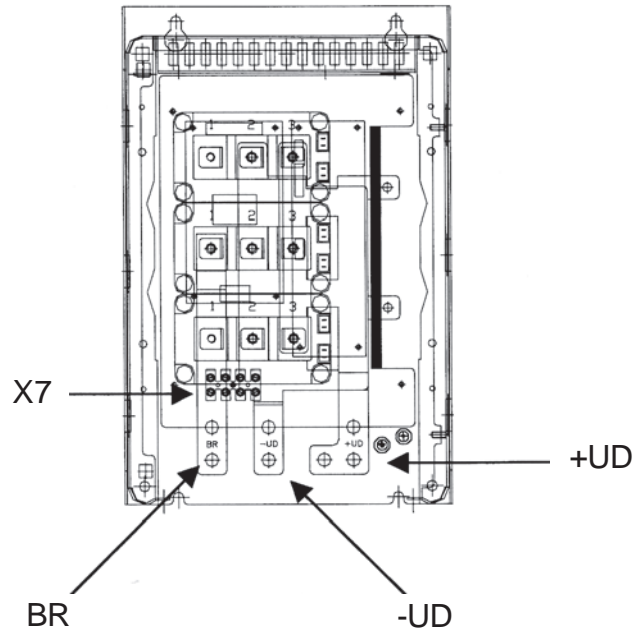

Figure 8.29 - Connection location
8.10.3.3 Installation/Connection Location of the power connections is shown in Figures 8.29, 8.30 and 8.31.